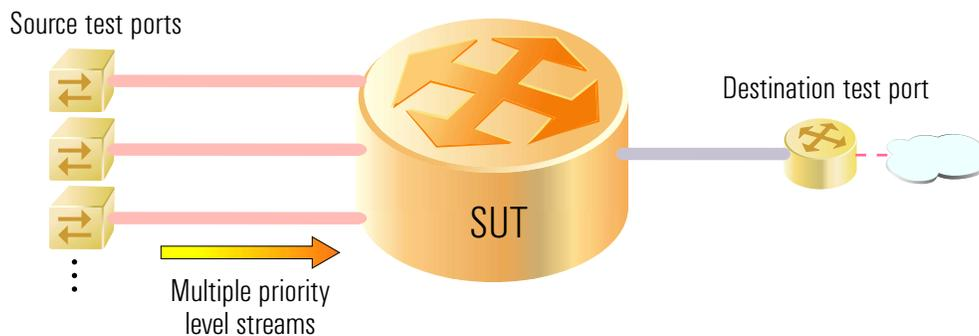

Figure 5: Measuring traffic capacity
- 1 Generate up to 2,000 traffic streams per port between thousands of test ports to stress the router forwarding engine and switch fabric resources (see Figure 5).